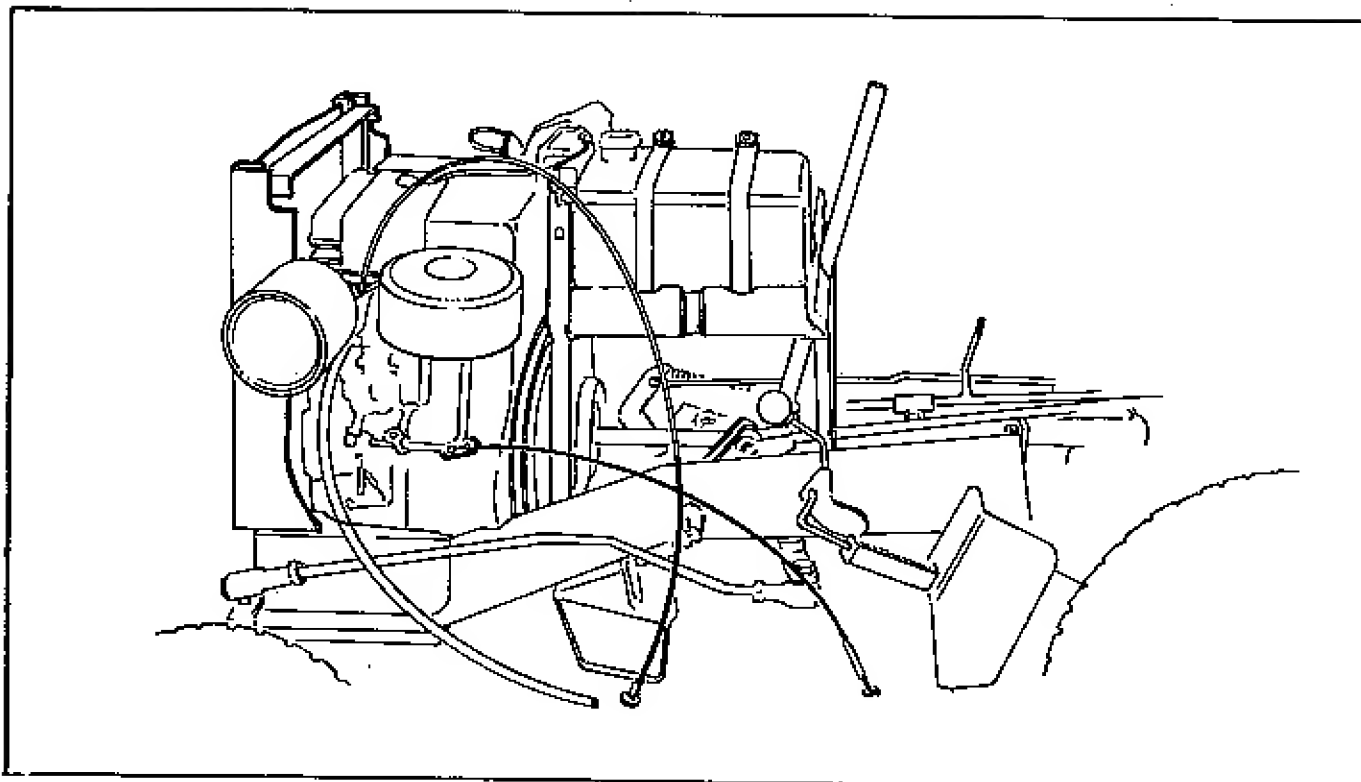

FIGURE 1
- A. Remove hood, side panels, battery, and shut gasoline valve below tank and disconnect gasoline hose. (Fig. 1), remove dash support assembly screws, frame from tractor, left handle, and quadrant.